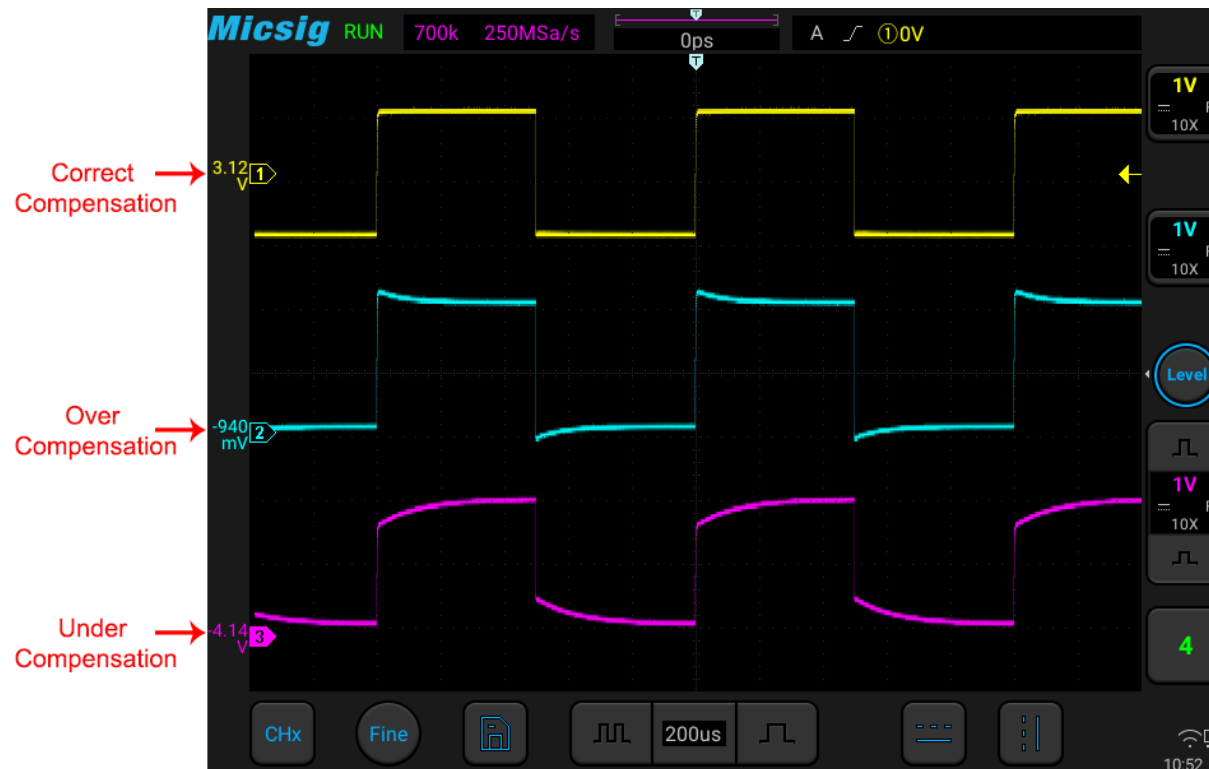

Figure 2-14 Probe Compensation
- 5) Tap button or manually adjust the waveform vertical sensitivity and horizontal time base. Observe the shape of the waveform, see Figure 2-14.